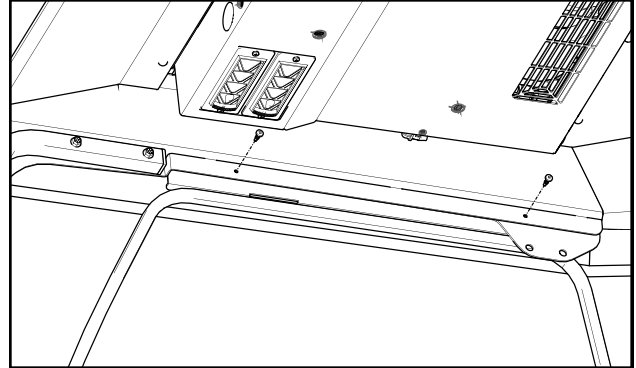

Fig. 4.6 (Cab Frames)
- 4.6 Hold or clamp the cab side frames against the roof mounting flange and install two self-drilling screws through the roof mounting flange into each cab frame. See Figure 4.6.